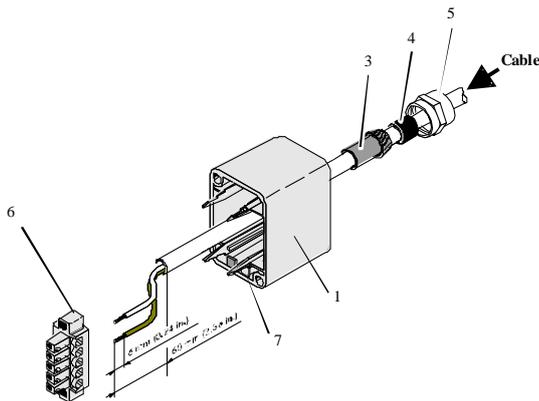

Figure 5-3: Arranged Parts for Mounting of the SAB Cab
- Remove all inner parts from the cable pipe at the SAB cab (1) ( nut (5), pipe(4) and cable fastener (3)) (see Figure 5-3)
- Put all the removed parts ( nut (5), pipe (4), cable fastener (3)) and the cable pipe of the SAB cab as well (1 to 4) to the cable.
- Stick the pipe (4) into the cable fastener (3).
- Stick the cable fastener (3) into the cable pipe.
- Connect the power supply cable into the right places of the MINI-COMBICON-connector (see Figure 5-3 Part (6)).
- Plug the finished assembled MINI-COMBICON-connector to the SAB cab. Take care of the correct coding ((7) in Figure 5-3) of the connectors.
- Fasten nut (5) of the cable pipes with the right tool (17mm).